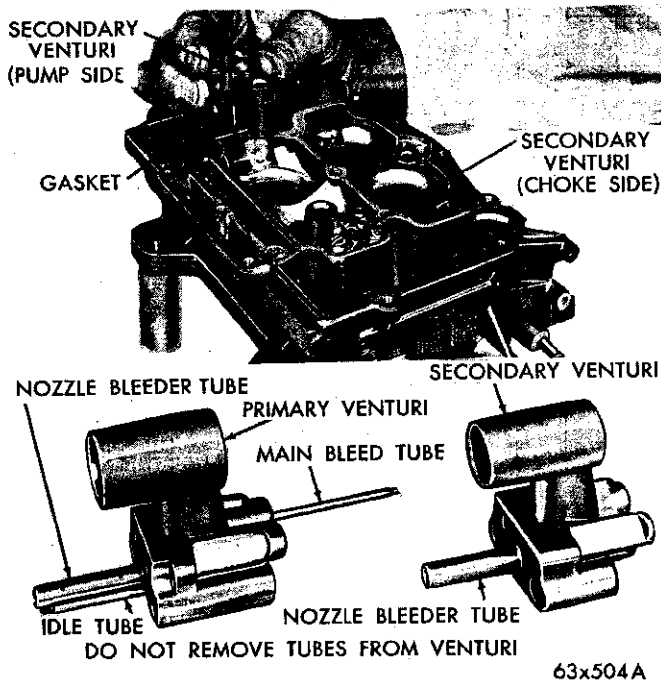

Fig. 6—Removing Secondary Venturi
(5) Remove the screws that attach the secondary venturi (choke and pump side) to the main body. Lift the secondary venturi assemblies straight up and away from the body, as shown in Figure 6.
(6) Using Tool T-109-59, screw driver bit, remove the accelerator pump intake check ball assembly. (The check ball assembly is located at the front of the bowl at the base of the accelerator pump cylinder. Be sure that the check ball is thoroughly cleaned before installation.
(7) Remove the two idle mixture adjusting screws and springs from the throttle body portion of the main casting.